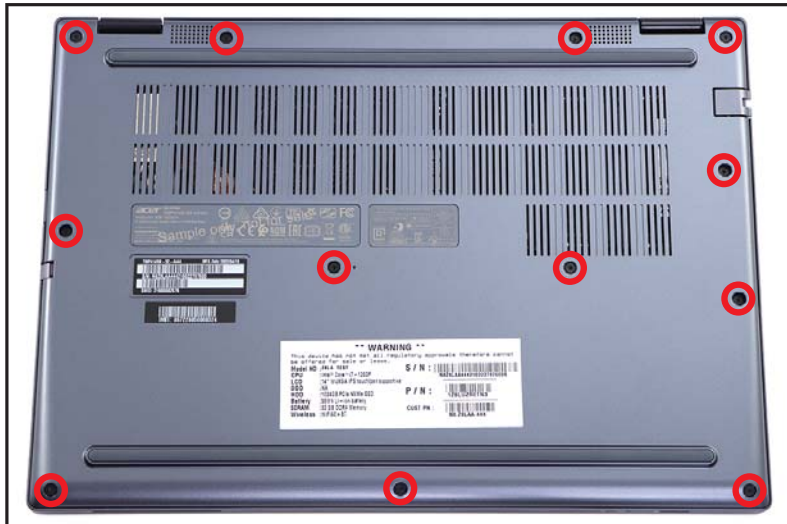

Figure 1-4. Base Cover Removal
1. Remove twelve (12) screws from the base cover (Figure 1-4).